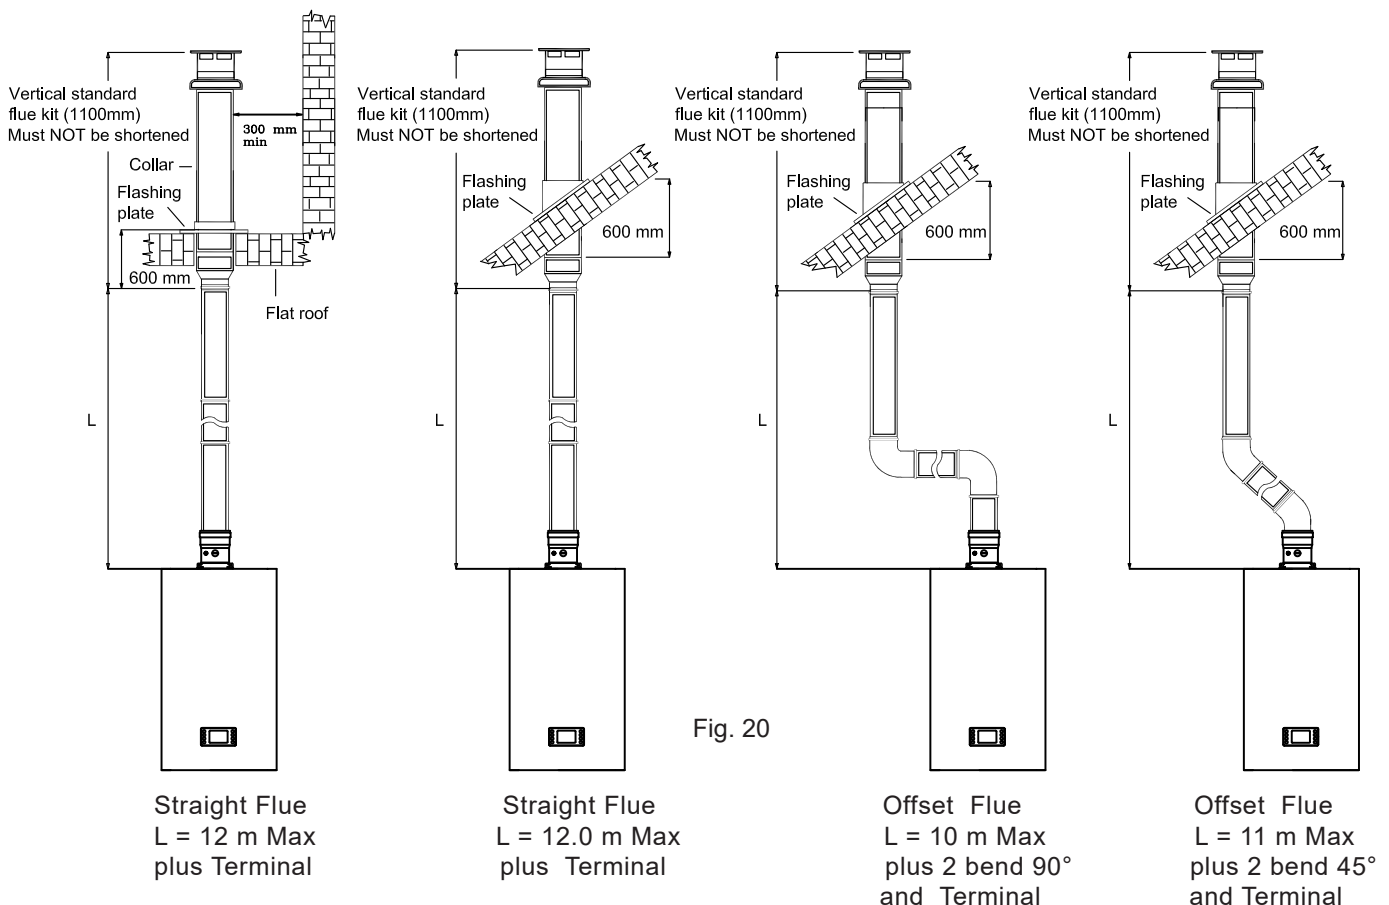

Fig. 20
- Ensure that the maximum permissible flue length is not exceeded (fig. 20 and see table 5).